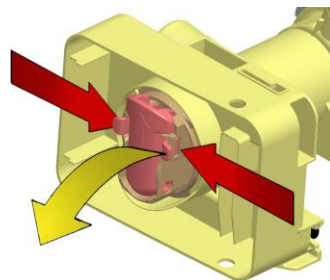

Fig. 3
- simultaneously extract the top part of the lever as shown by the yellow arrow in fig. 3.